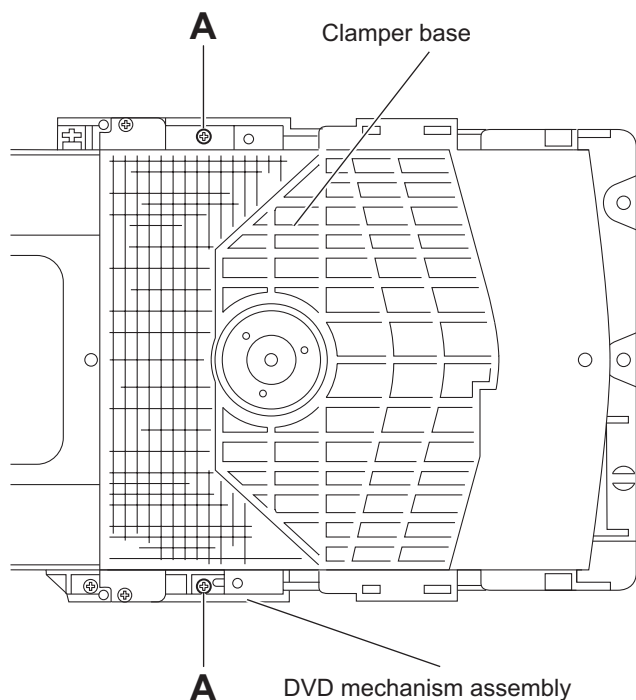

Fig.1
(See Fig.1 to 7)
- (1) Remove the two screws **A** attaching the tramecha holder from top side of DVD mechanism assembly. (See Fig.1)